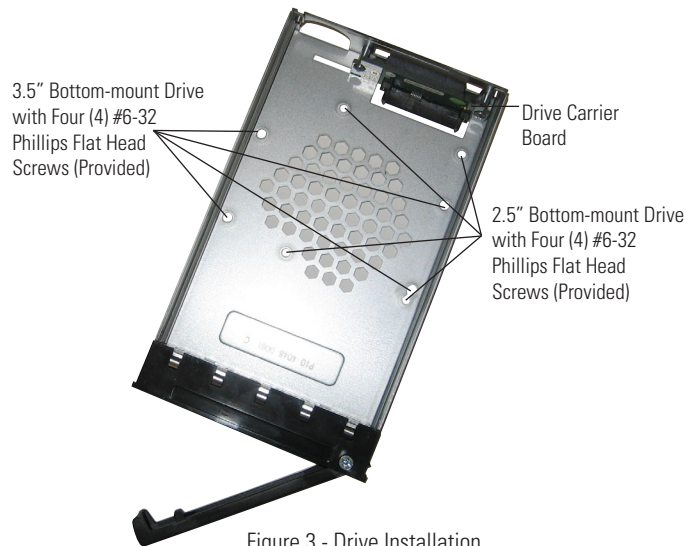

Figure 3 - Drive Installation
2. Carefully insert the drive (not included) into the carrier. Slide the drive towards the Drive Carrier Board, so that the I/O connector on the drive mates with the connector on the Drive Carrier Board (Figure 3). Turn the drive/carrier assembly over.
3. Fasten the drive into place using the mounting screws provided (Figure 3). Some drives may require minor adjustment before securing into carrier with screws.